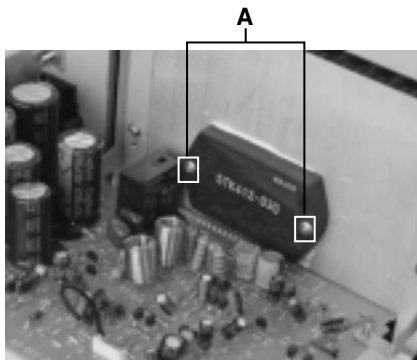

Fig.2
3. Solder is put up before the card wire is removed from connector Cn601 on the main board as shown in Fig.1 and Fig. 2. (When the wire is removed without putting up solder, the CD pick-up assembly might destroy.)
■ Replacing the power IC (See Fig.2)